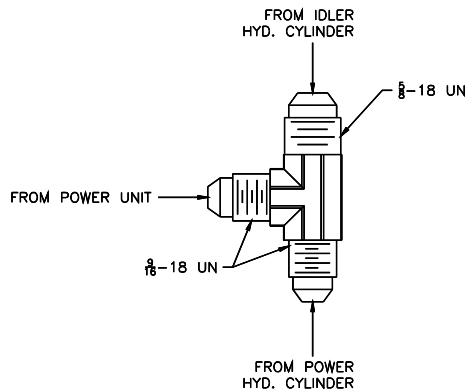

Fig 6 – Hyd. Tee Fitting
- 12) Install Overhead Limit Switch under the Overhead Assembly on the Power Side. Route cable around outside of column as shown in **Fig. 6**.
- 21) The hydraulic hose from the idler cylinder to the tee fitting are slightly larger and have a different size fitting. Note during installation to attach the hoses in the correct end of the tee. **Fig 6**.